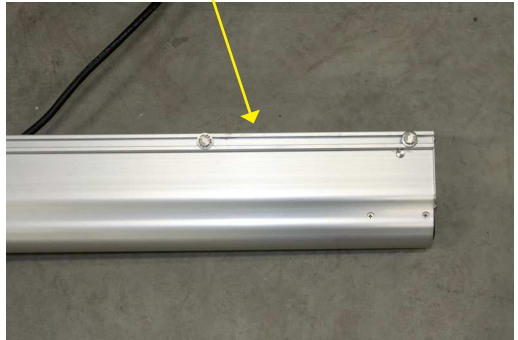

FIGURE 11
2. The Anchor Assembly has (2) vertical tracks on either side for vertical adjustment (Figure 11). Two Vertical Stop Adjustment Bolts are included on the starboard (right) side of the Anchor Assembly track. One is to be used above the Primary Mounting Bracket as an operational position stop. The second is to be used underneath the Primary Mounting Bracket.